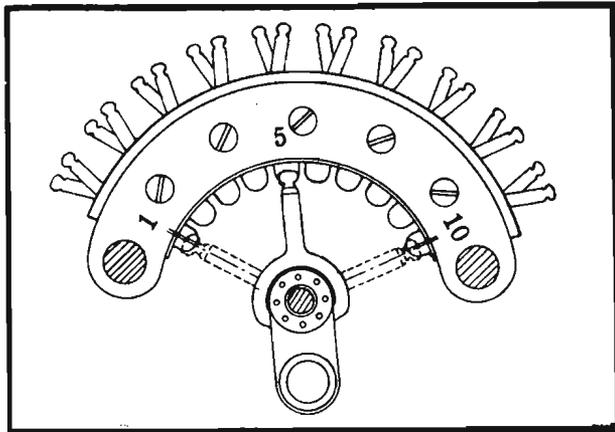

Figure 14. Rotary Centering is Checked on Contacts 1, 5, and 10 and Adjusted on Contact 5.
3.24 Check rotary centering of wipers on bank contacts 1, 5 and 10 of bank levels 1 and 10 (Fig. 14). If difficulty is encountered in centering the wipers, adjust by repositioning either the wiper assembly or banks.
3.26 Recheck rotary centering on bank contacts 1, 5, and 10 of bank levels 1 and 10. The wipers should approximately center on all bank contacts. In some cases, the wipers will not approximately center on all contacts. In these cases, the distance the wipers are off-center on contact 1 should be the same as the distance the wipers are off-center on contact 10. However, if the wipers rest to left of center on contact 1, they should rest to right of center on contact 10. Conversely, if the wipers rest to the right of center on contact 1, they should rest to the left of center on contact 10. See Fig. 14.